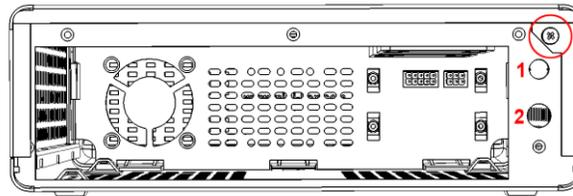

Figure 26. Removing the top lid
1. To remove the top lid, remove the screw (encircled in red) from the back, in the right corner, see Figure 26. Push back the top lid ½ inches and after this, gently pull it up.